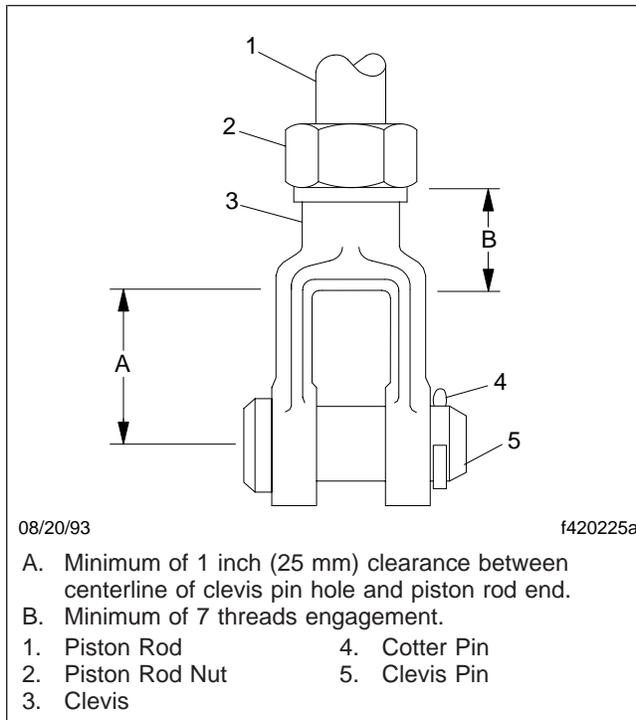

Fig. 2, Piston Rod Engagement With the Clevis
3. Observe the piston rod engagement with the clevis. Engagement of at least 7 threads is required; there should be 1 inch (25 mm) clearance from the centerline of the clevis pin hole to the end of the piston rod. See **Fig. 2**. Adjust if needed.